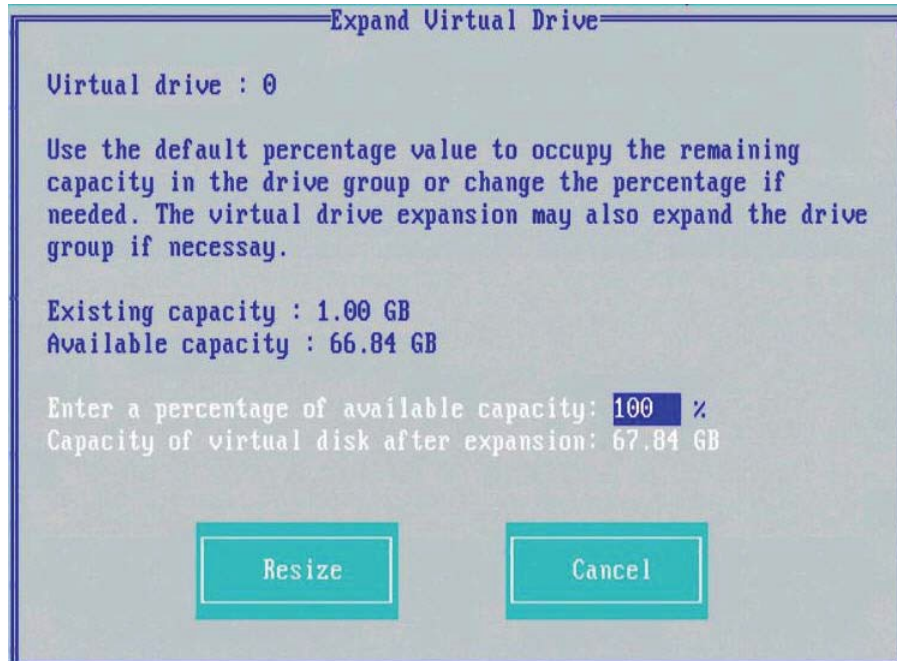

Figure 59. RCU – expand virtual drive
2. Navigate to **Expand VD**, and press <Enter>. The Expand Virtual Drive dialog appears (Figure 59).